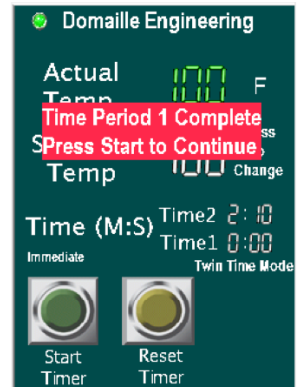

FIG 22. "Time 1" done indicator
"Twin Time" mode allows the user to select a temperature set point and two (2) times for the oven cure cycle. "Twin Time" is similar to "Timed" mode except the oven will execute "Time 1" first and then a text box pops up, alerting the user "Time Period 1 Complete. Press Start to Continue" [Fig. 22]. Once the user presses the "Start Timer" button "Time 2" will begin.